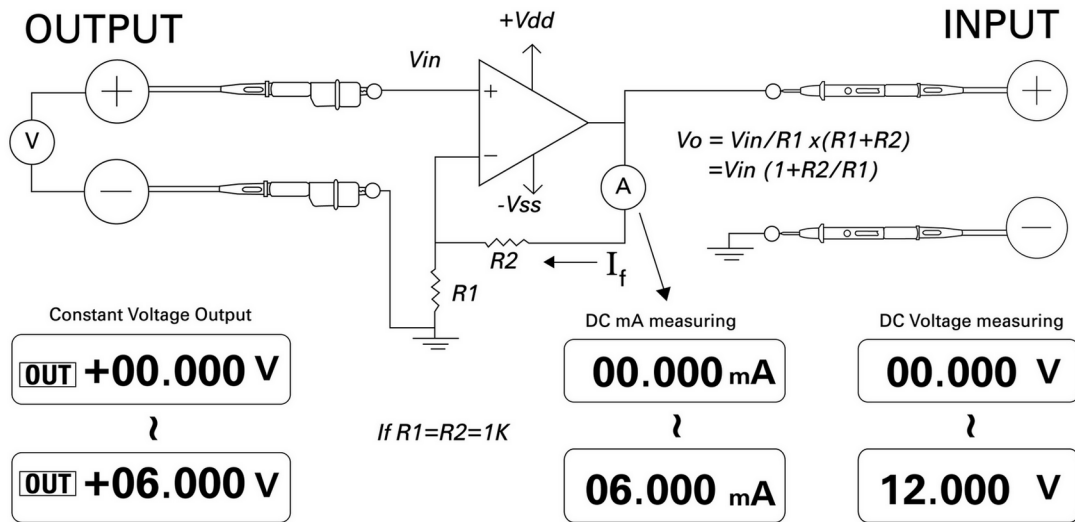

Figure 5-14 Voltage-to-current converter
In maintaining its differential input voltage at zero, the operational amplifier shown in Figure 5-14 forces a current $I = V_{in}/R1$ to flow through the R2 load in the feedback path. This current is independent of the load.
- 5 Connect the operational amplifier as shown in Figure 5-14.
- 8 As an alternative, you can set the rotary switch to the $\sim mA / \text{Ⓢ}$ position and connect the input probe leads in place of the meter **A** as shown in Figure 5-14. You will find that the measured current is proportional to the voltage input into the operational amplifier.